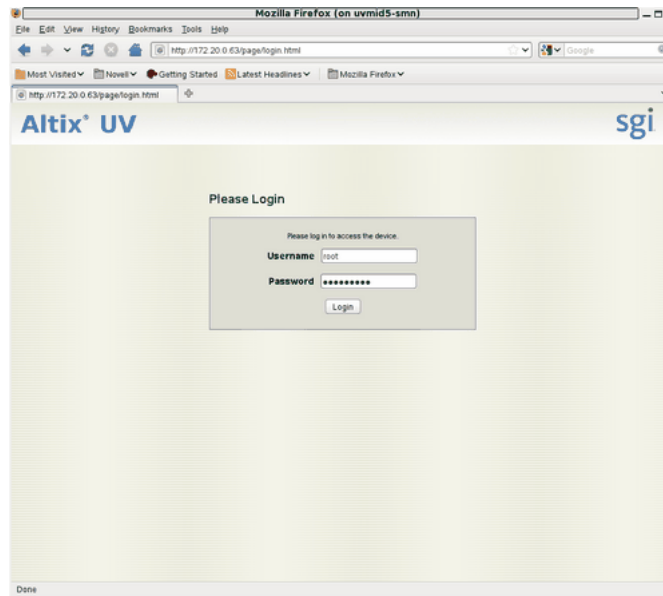

Figure 3-1 BMC Login Screen
- The BaseIO node BMC login screen appears, as shown in Figure 3-1 on page 38. Login as **root** with the password **superuser**.